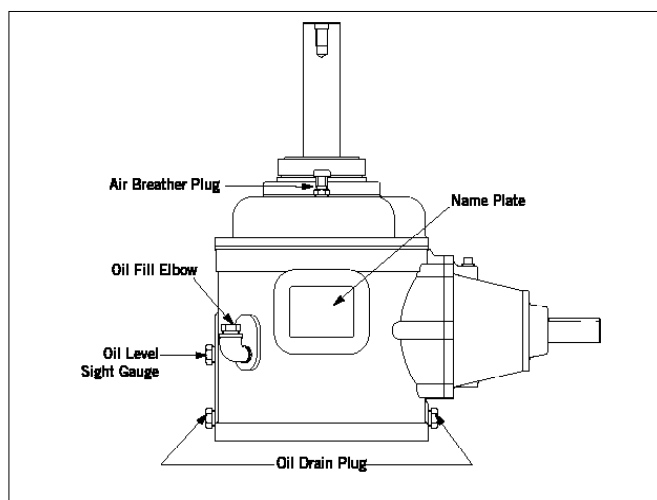

Figure 5. Gear Drive
- Prior to the start-up, check all fittings on the gear drive to ensure that there are no visible leaks. Refer to **Figure 5** for locations of the gear drive fittings.
- Refill the gear drive through the oil fill elbow with the recommended type and amount of lubricant (**Table 3, page 18**). Refer to **Figure 5** for locations of these components.